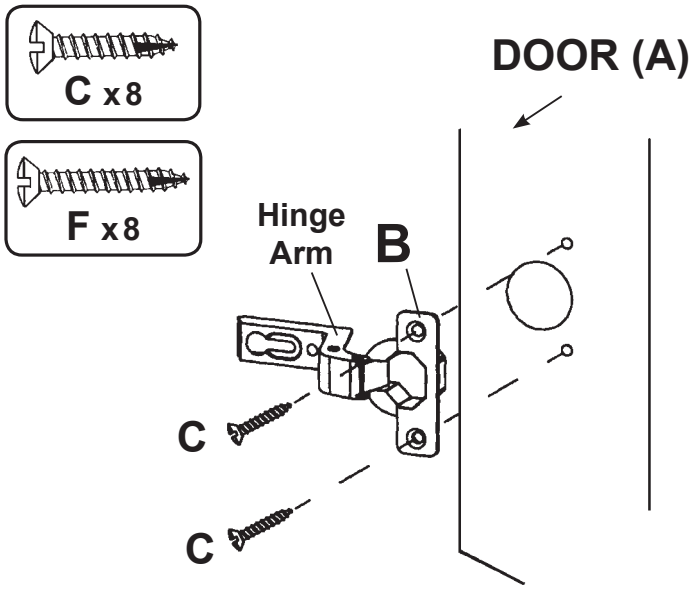

FIG. 3A
3. Lay the Door (A) face down on a clean protected surface. Place one Hinge (B) into each of the holes in the back of the door. Line up the screw holes in the hinge with the predrilled holes in the door and insert Screw (C). See FIGURE 3A.
**FIG. 3A y 3B — Hinge Arm = Brazo de bisagra;